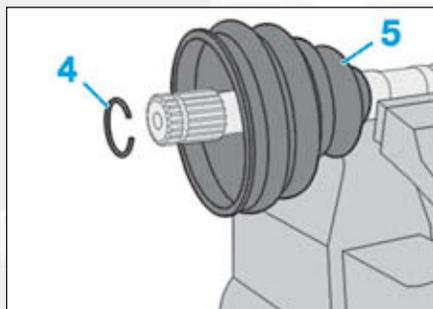

FIG.11
- le circlip (4) (Fig.11),
- le soufflet de transmission (5).